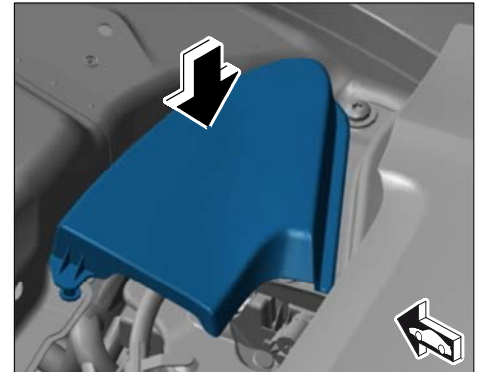

Figure 44
- 1 Engage emergency release cable and clip in the inner cover at the right ⇒ *Figure 44 -arrow-*.